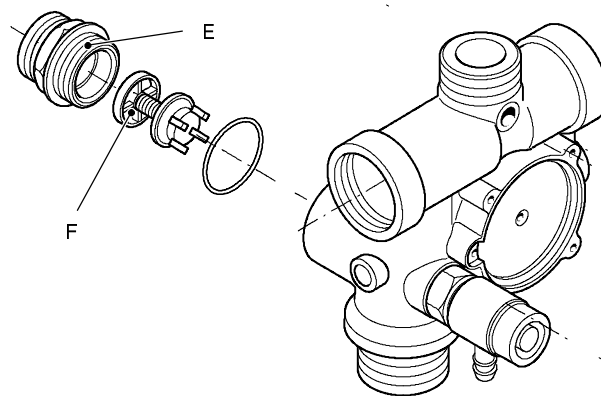

fig. 72
- 5 Unscrew the connector E and remove the by-pass valve F (fig. 72).
- 6 Reassemble the by-pass valve as illustrated in fig. 72 and proceeding in reverse order.